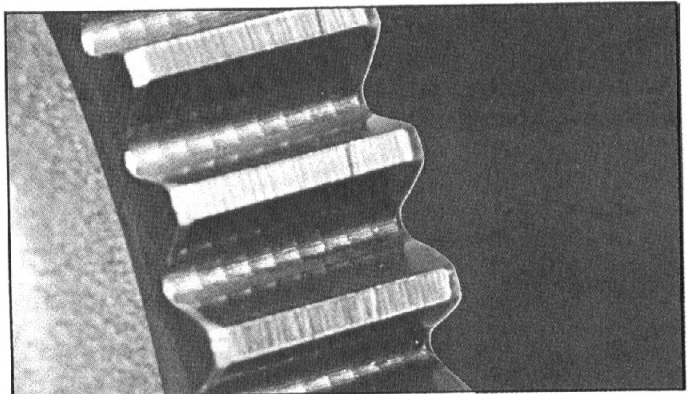

Figure 6. Hob marks
1. **Hob marks** — These are cutting marks or lines formed during the initial cutting of the gear teeth, Figure 6. Hob marks on the tooth face